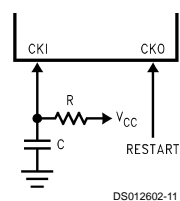

FIGURE 7. Crystal R/C, and External Oscillator Diagrams
*Figure 7* shows the Crystal and R/C oscillator diagrams.